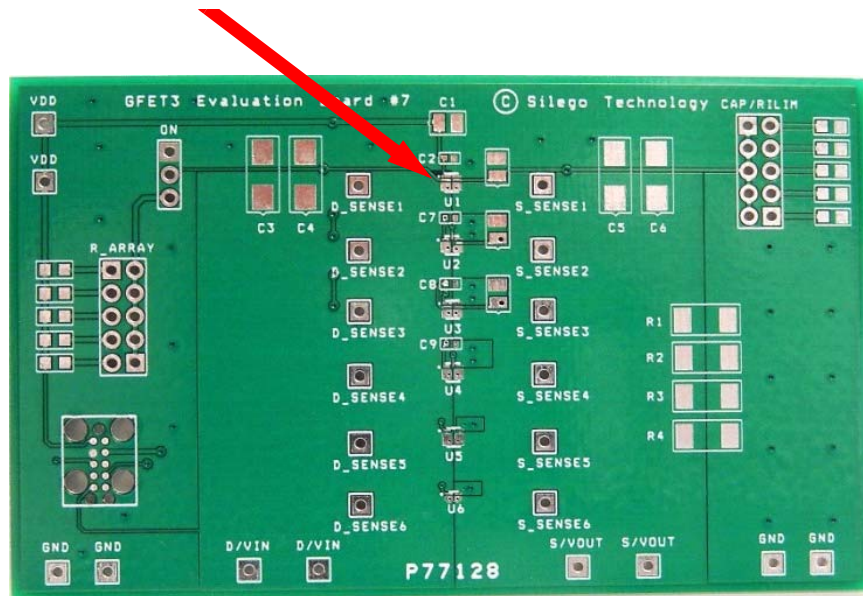

Figure 1. SLG59M1457V Evaluation Board.
2. Since the D and S pins dissipate most of the heat generated during high-load current operation, it is highly recommended to make power traces as short, direct, and wide as possible. A good practice is to make power traces with an absolute minimum widths of 15 mils (0.381 mm) per Ampere. A representative layout, shown in Figure 1, illustrates proper techniques for heat to transfer as efficiently as possible out of the device;
A GFET3 Evaluation Board for SLG59M1457V is designed according to the statements above and is illustrated on Figure 1. Please note that evaluation board has D\_Sense and S\_Sense pads. They cannot carry high currents and dedicated only for RDSON evaluation.